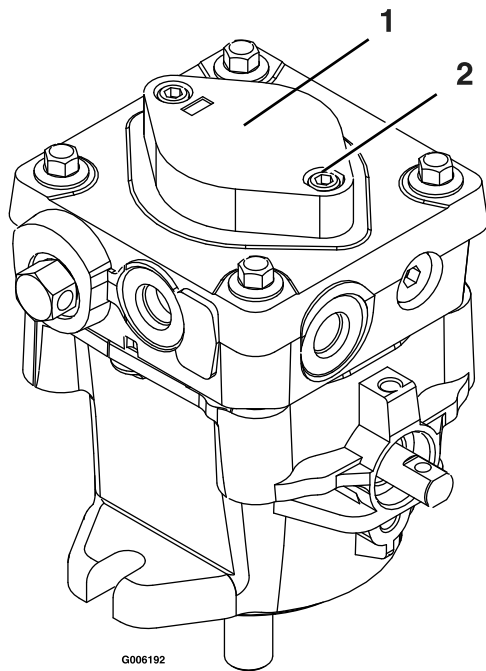

Figure 15
7. If either drive wheel does not rotate, one or both of the charge pumps (located on the top of the main pump as shown in Figure 15) may have lost their “prime”. Refer to **Hydraulic System Air Purge** section.
The critical area for purging air from the hydraulic system is between the oil reservoir and each charge pump located on the top of each variable displacement pump (Figure 15). Air in other parts of the hydraulic system will be purged through normal operation once the charge pump is “primed”.
5. To “prime” charge pump, loosen two hex socket head capscrews (shown in Figure 15) **1 1/2 turns only. Make sure engine is not running.** Lift the charge pump housing upward and wait for a steady flow of oil to flow out from under the housing. Retighten the capscrews. Do this for both pumps.